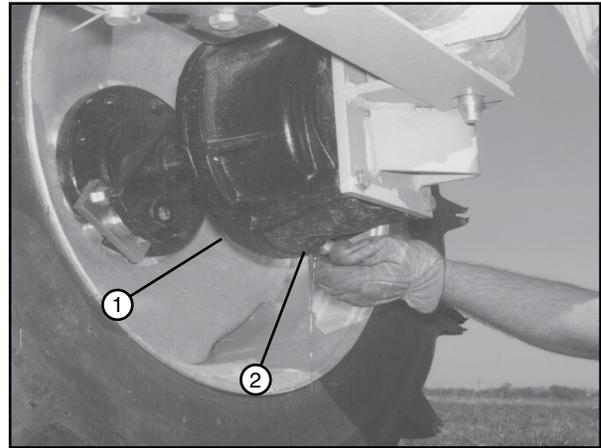

Figure 89-1 1. Wheel Gearbox
3. Remove the drain plug from the bottom of the wheel gearbox and drain the oil into a container. See Figure 89-1.